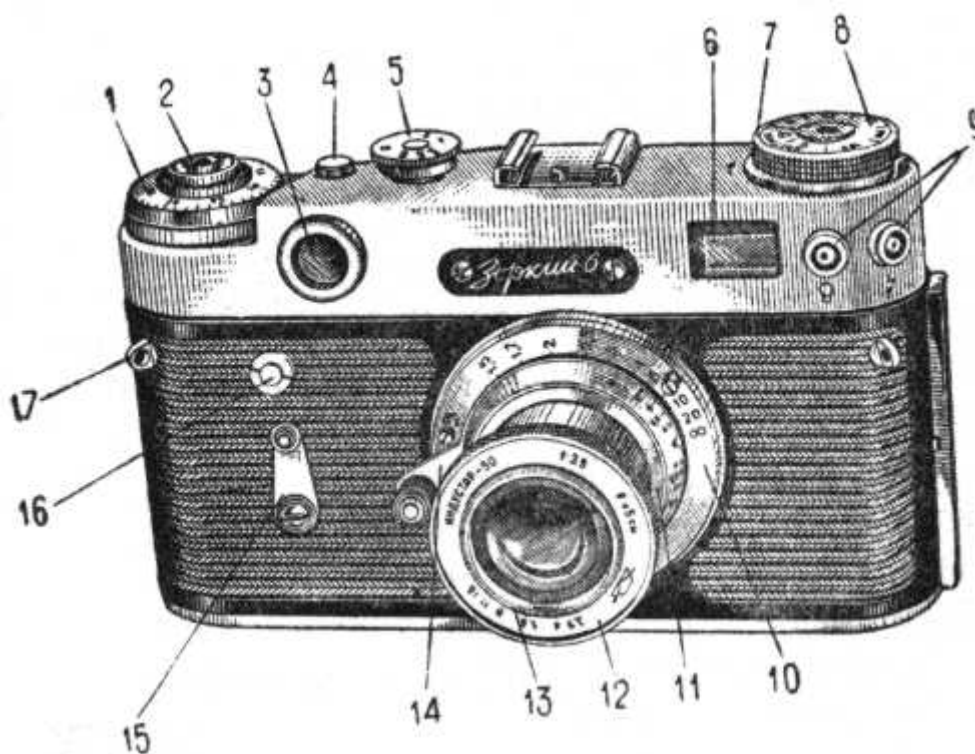

Fig. 1
- (c) lens "Industar-50" (Fig. 1), in sliding and fixed mounts.
3. Camera Loading (Figs. 1, 2, 4)
4. Camera Optical System: Lens, Range-Finder, View-Finder (Figs. 1 and 2)
5. Flash Synchronizer (Fig. 1)